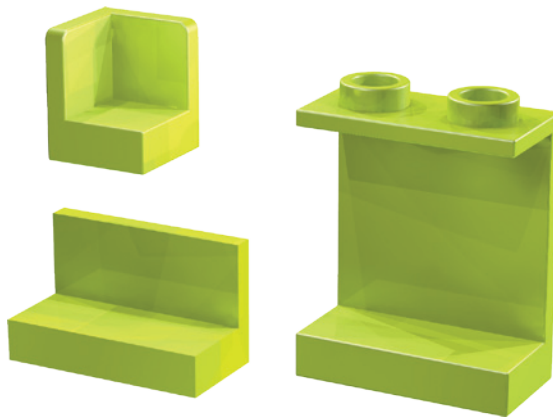

Figure 1-13: Panels come in a variety of shapes and sizes.
*Panels*, on the other hand, come in more shapes and sizes (see Figure 1-13). Panels are kind of like tiles with other tiles attached at right angles to form a thin vertical wall or two. Panels may or may not have studs.